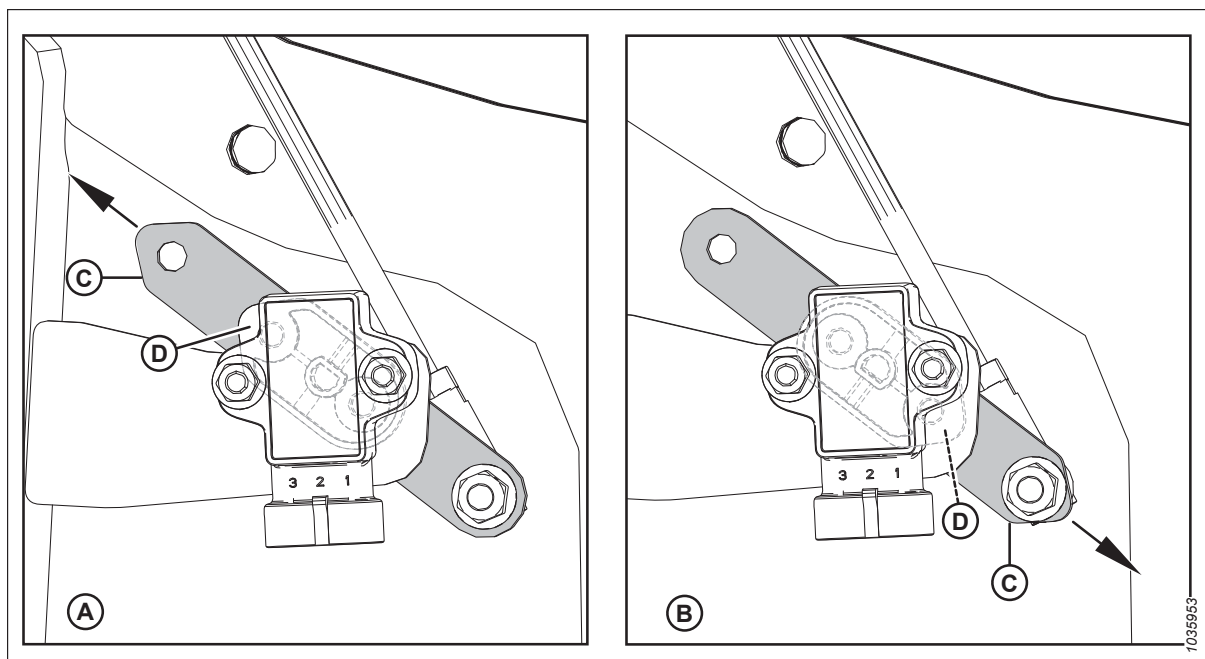

Figure 3.42: Sensor Arm/Pointer Configurations
- Ensure that sensor arm (C) and pointer (D) are configured properly for the header. For instructions, refer to Figure 3.42, page 83.